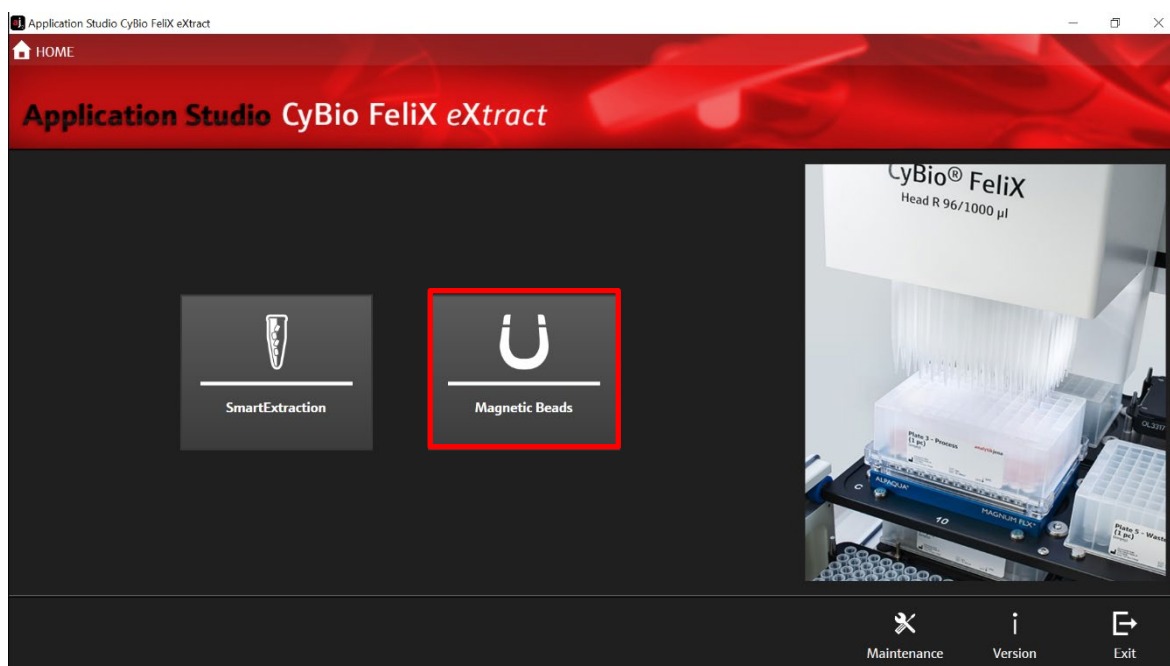

Figure 4: Homescreen of the AppStudio FeliX *eXtract*.
14. Choose “Magnetic Beads” (→ see Figure 4).